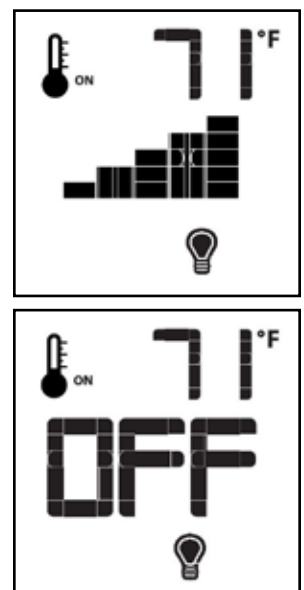

Figure 14: Lights ON and OFF
This fireplace is equipped with dimable Media Tray accent lighting. With the fireplace ON, press the Mode button (Figure 1) to index to the Light Bulb icon (Figure 14). Next, press the UP button to turn on the lights. The lights can be dimmed or brightened through six (6) levels. Use the Up/Down Arrow Keys to adjust the brightness. A single “beep” will confirm reception of each command.